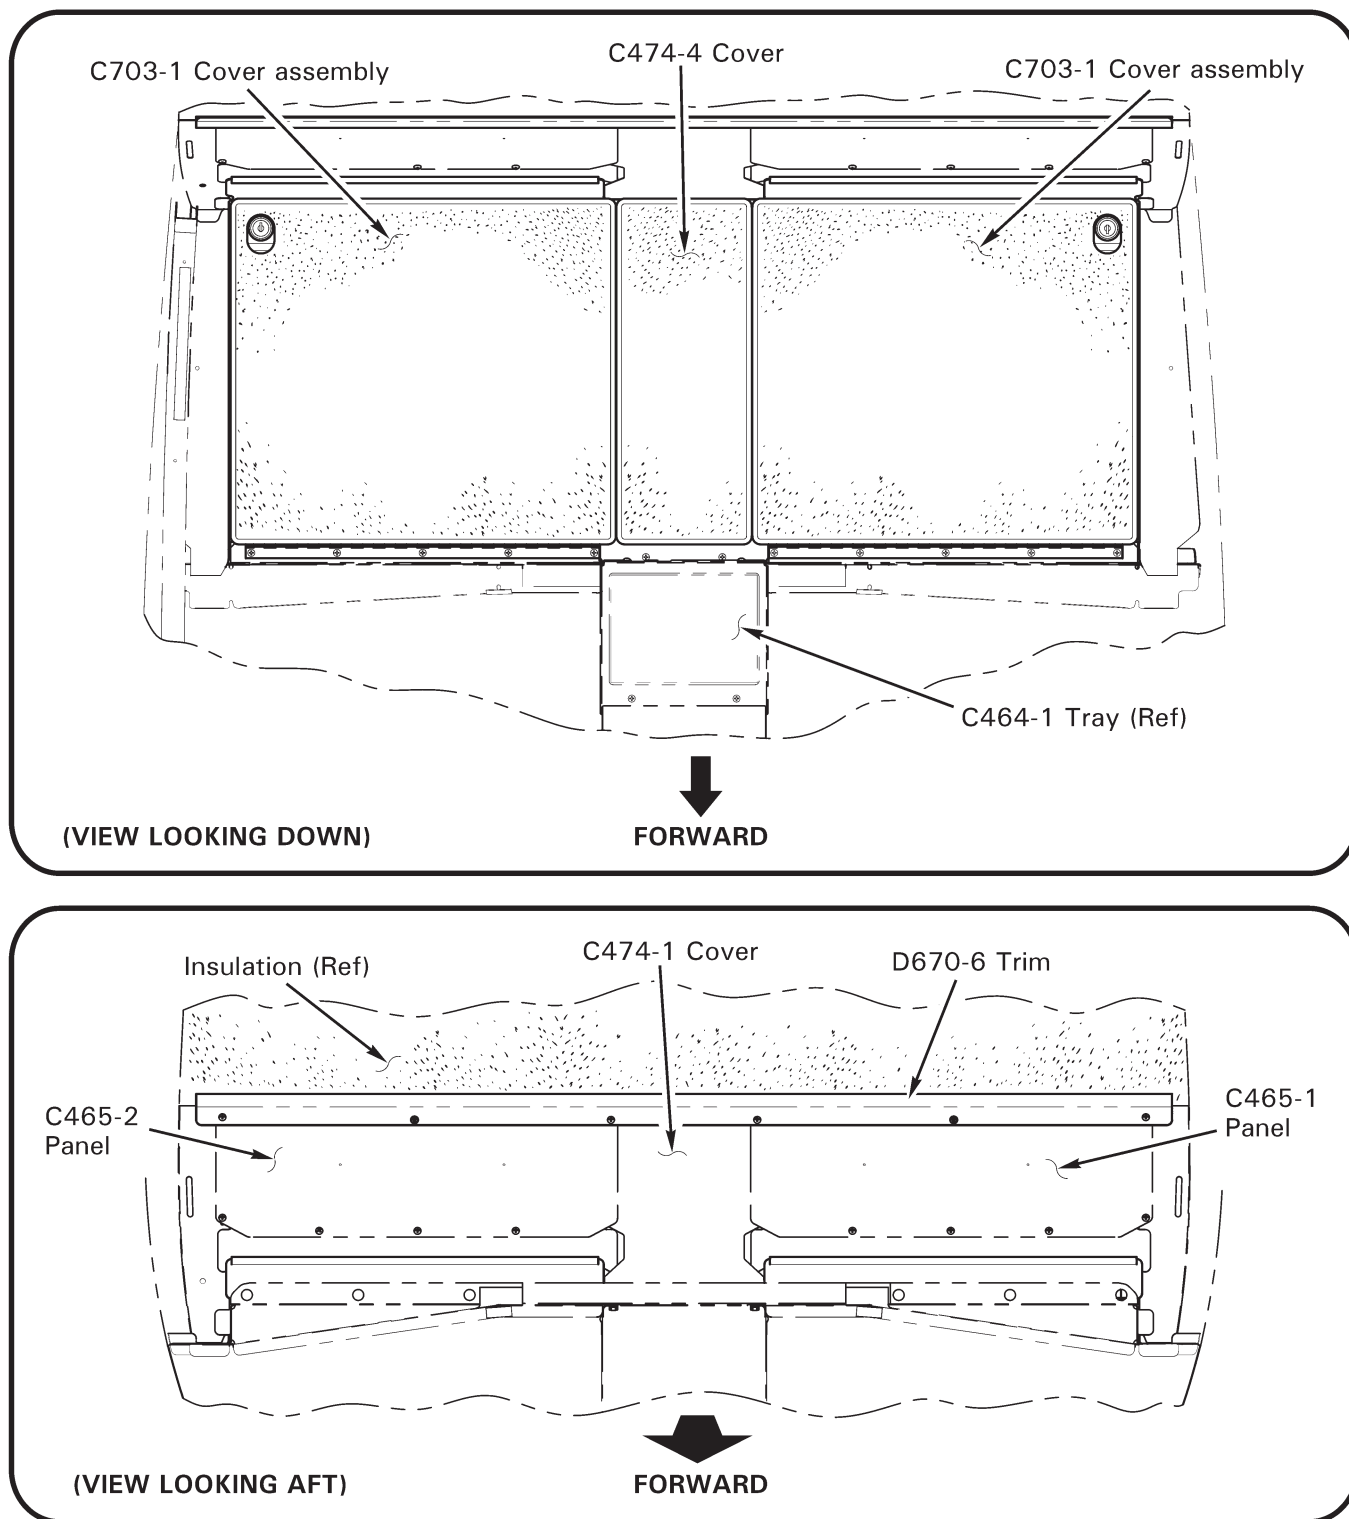

FIGURE 36-2 AFT CABIN ACCESS PANELS
1. Refer to Figure 36-2. Open C703-1 cover assemblies, remove screws securing C474-4 (horizontal) cover to cabin, and remove cover.
1. Refer to Figure 36-2. Remove screws securing D670-6 trim to C465 panels and remove trim.